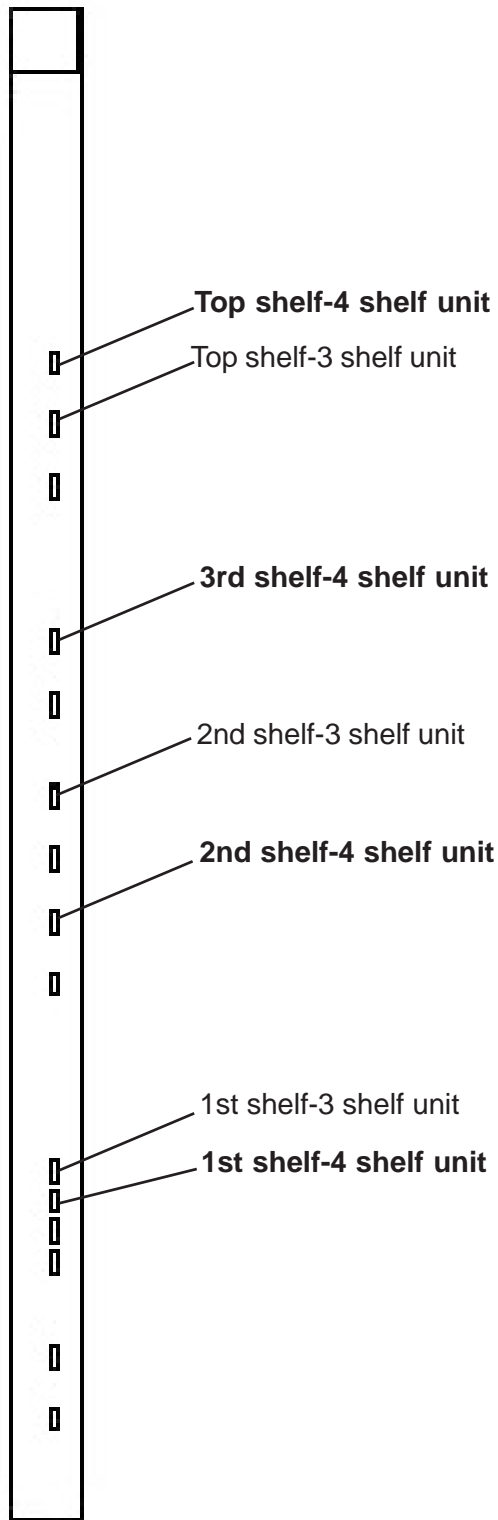

Figure 2-5
- a. Hook the shelf brackets in the slots in the back, interior of unit. See next pages (Figure 2-5 & 2-6) for proper slot arrangement for either 2, 3 or 4 shelf units.